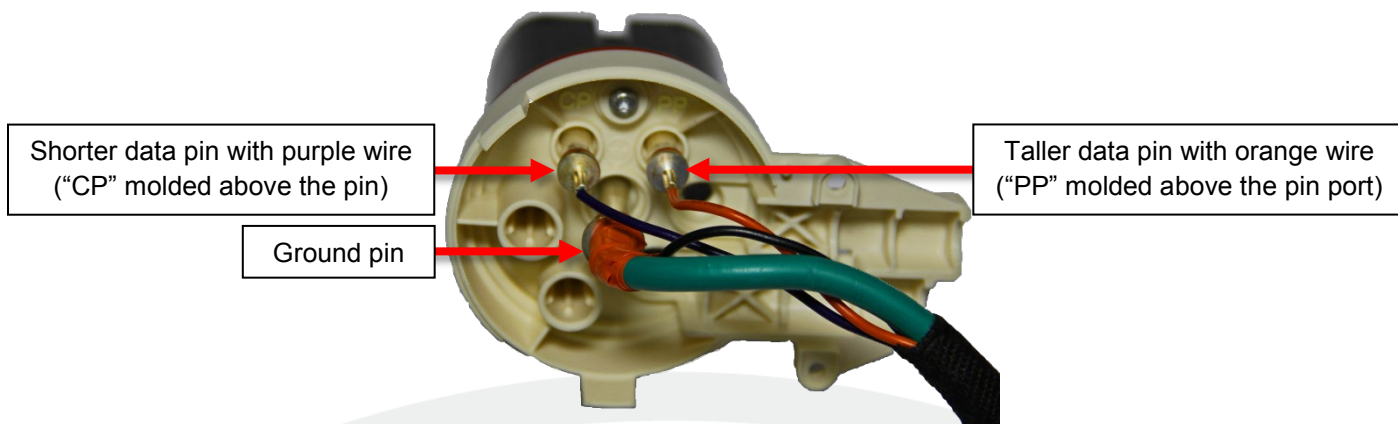
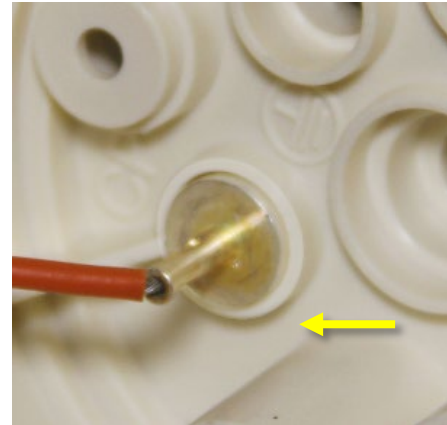

Figure 35
Figure 36
18. Partially insert the 2 data pins and the ground pin into the pin carrier ports (Figure 35), and then use a small flat screwdriver or similar tool to fully insert each pin into the pin carrier until the pin stops (Figure 36).